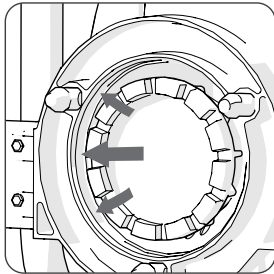

Fig. 10 (arrows show inner wall of annular ring)
- Keep the annular ring scrupulously clean and free from debris. **(Fig. 10)**